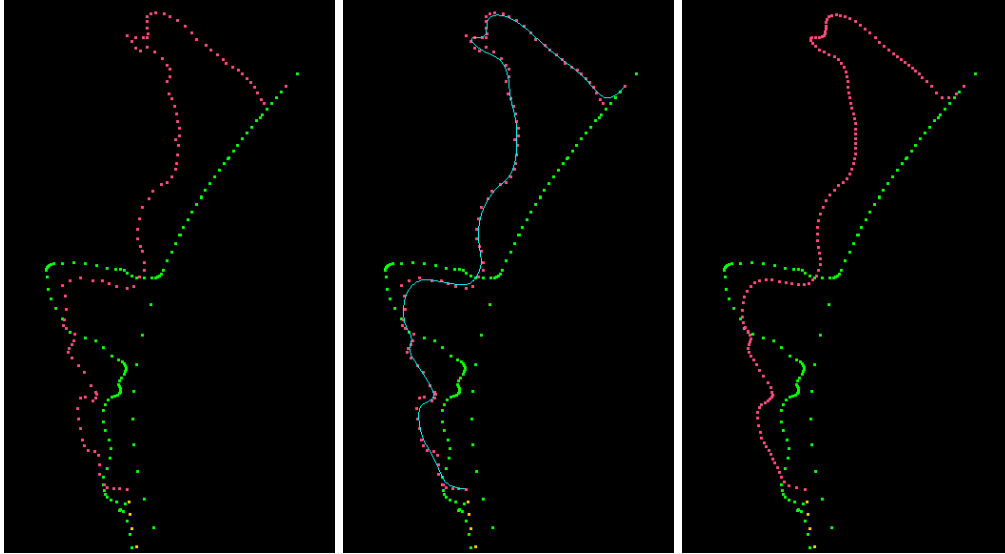

Figure 10. Left to right: original points; curve smoothed using 40 control points (control points not shown); new curve with 150 points.
- Make sure the view is zoomed into the area at the front of the airfoil (Figure 10).
- Make changes permanent, or discard the changes the same way you did in the *Tanh Redistribution* window. Figure 10 shows what these changes would look like if you made them permanent.